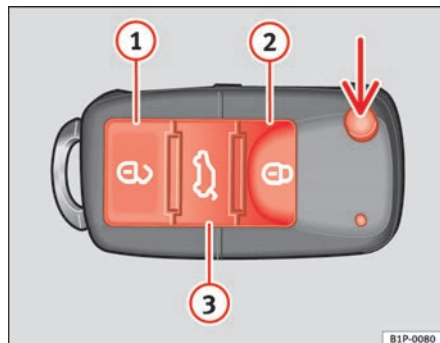

Fig. 63 Assignment of buttons on the remote control key
Using the button \Rightarrow fig. 63 (arrow) on the control, the key shaft is released.
Unlocking the vehicle \Rightarrow fig. 63 ①.
Locking the vehicle \Rightarrow fig. 63 ②.
Unlocking the tailgate. Press the button \Rightarrow fig. 63 ③ until all indicators on the vehicle briefly flash. When the unlocking button \Rightarrow fig. 63 ③ is pressed, you have 2 minutes to open the door. Once this time has passed, it will lock once more.
Also, the battery indicator on the key \Rightarrow fig. 63, will flash.
When the button \Rightarrow fig. 63 ①, is pressed once, the driver's door is unlocked, all others remain locked.
Press the button \Rightarrow fig. 63 ① twice to unlock all doors.
- Press the  ⇒ page 98, fig. 63 button on the remote control.